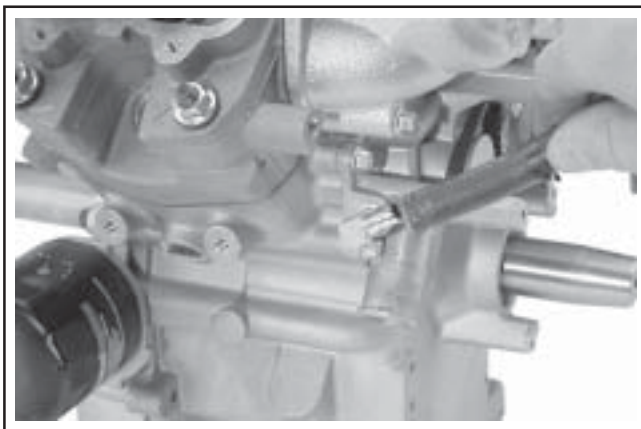

Figure 9-41. Removing By-pass Hose from Water Pump Fitting.
1. Disconnect the by-pass hose from the fitting on the water pump. See Figure 9-41.